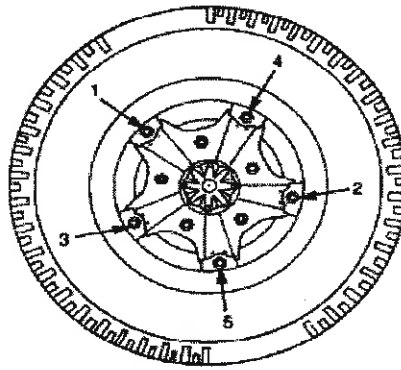

Figure 23 Wheel Nut Tightening Sequence
- l. Torque the nuts to 237-305 N.m (175-225 lbf. ft) in the sequence shown (Figure 23).